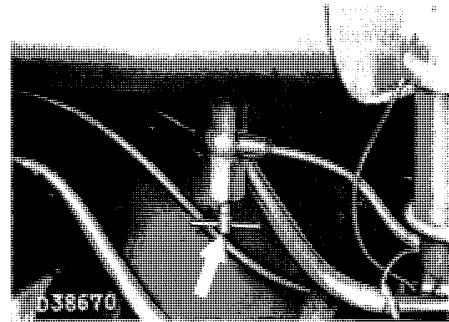

Fig. 9: Fuel shut off tap.
5. The fuel stop cock (Fig. 9) must be wide, open. This cock should only be shut for cleaning the fuel filter or when the tractor is out of operation for several days. If equipped with a lockable stop knob turn knob 1/4 turn to the left and push it in.
8. With the switch key in the 0 position (Fig. 9) push the starter button. The switch key should be set at 0 to avoid over-draining the batteries by switching on any other units which use electricity. As soon as the engine starts, immediately release the starter button. Both the red and the green warning lights should go out as the engine runs at full speed. If this is not the case, switch the engine off again and investigate and eliminate the cause.